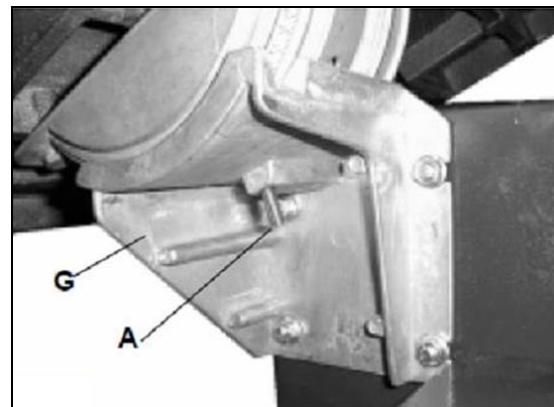

**Fig 3**
Fit the upper table trunion casting (B, Fig 3) to the underside of the bandsaw table (D) using the 4 - M8 x 16 hex head set screws (E) and washers, ensuring that the angle tilt scale is closest to the edge of the table.